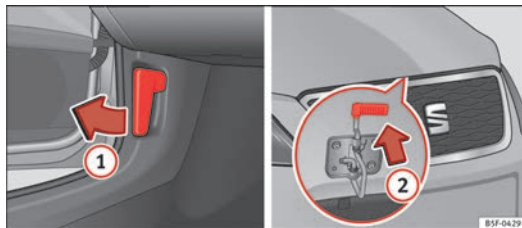

Fig. 160 Release lever in driver footwell and cam below the bonnet.
- Pull the lever under the dash panel in the direction of the arrow **①** ⇒ Fig. 160.
- Press the release catch under the bonnet upwards ⇒ Fig. 160 **②**. This will release the arrester hook under the bonnet.